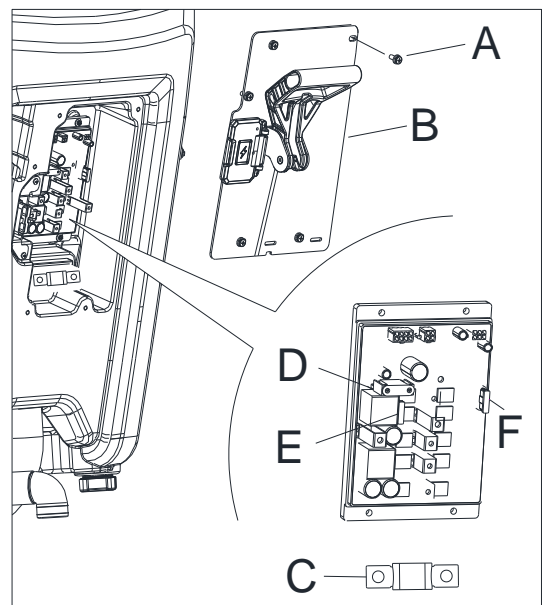

Figure 28
3. Remove the screws (A, Figure 28) on control box cover (B).
- a) F1 fuse (D, Figure 28), brush fuse(80A)
- b) F2 fuse (E, Figure 28), vacuum fuse(40A)
- c) F3 fuse (F, Figure 28), control board fuse(2A)
- d) F4 fuse (C, Figure 28), main fuse(100A)